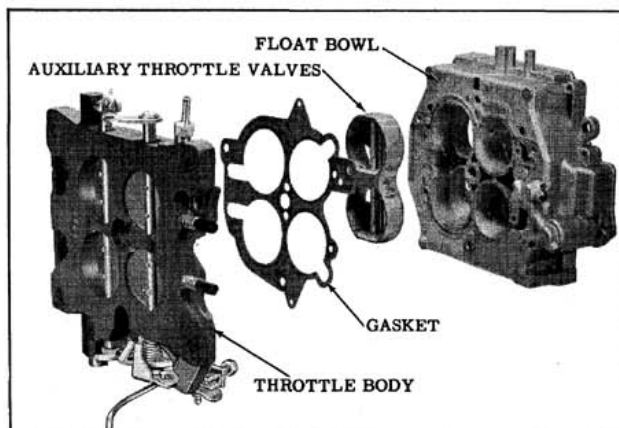

Fig. 4-53 Auxiliary Throttle Valve
16. Invert the carburetor body and remove the four throttle body attaching screws. Remove the throttle body and gasket. (Fig. 4-53)
1. With the float bowl in the inverted position, install the auxiliary throttle valve assembly so that the calibrated spring operating pin is down. (Fig. 4-53)